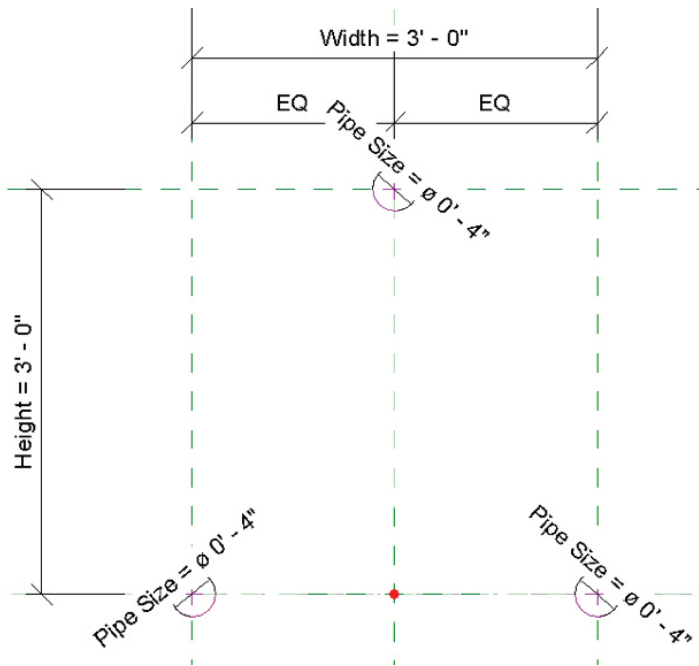

Figure 6.
8. Add the three 4" circles, the reference planes, dimensions and parameters as shown in Figure 6.